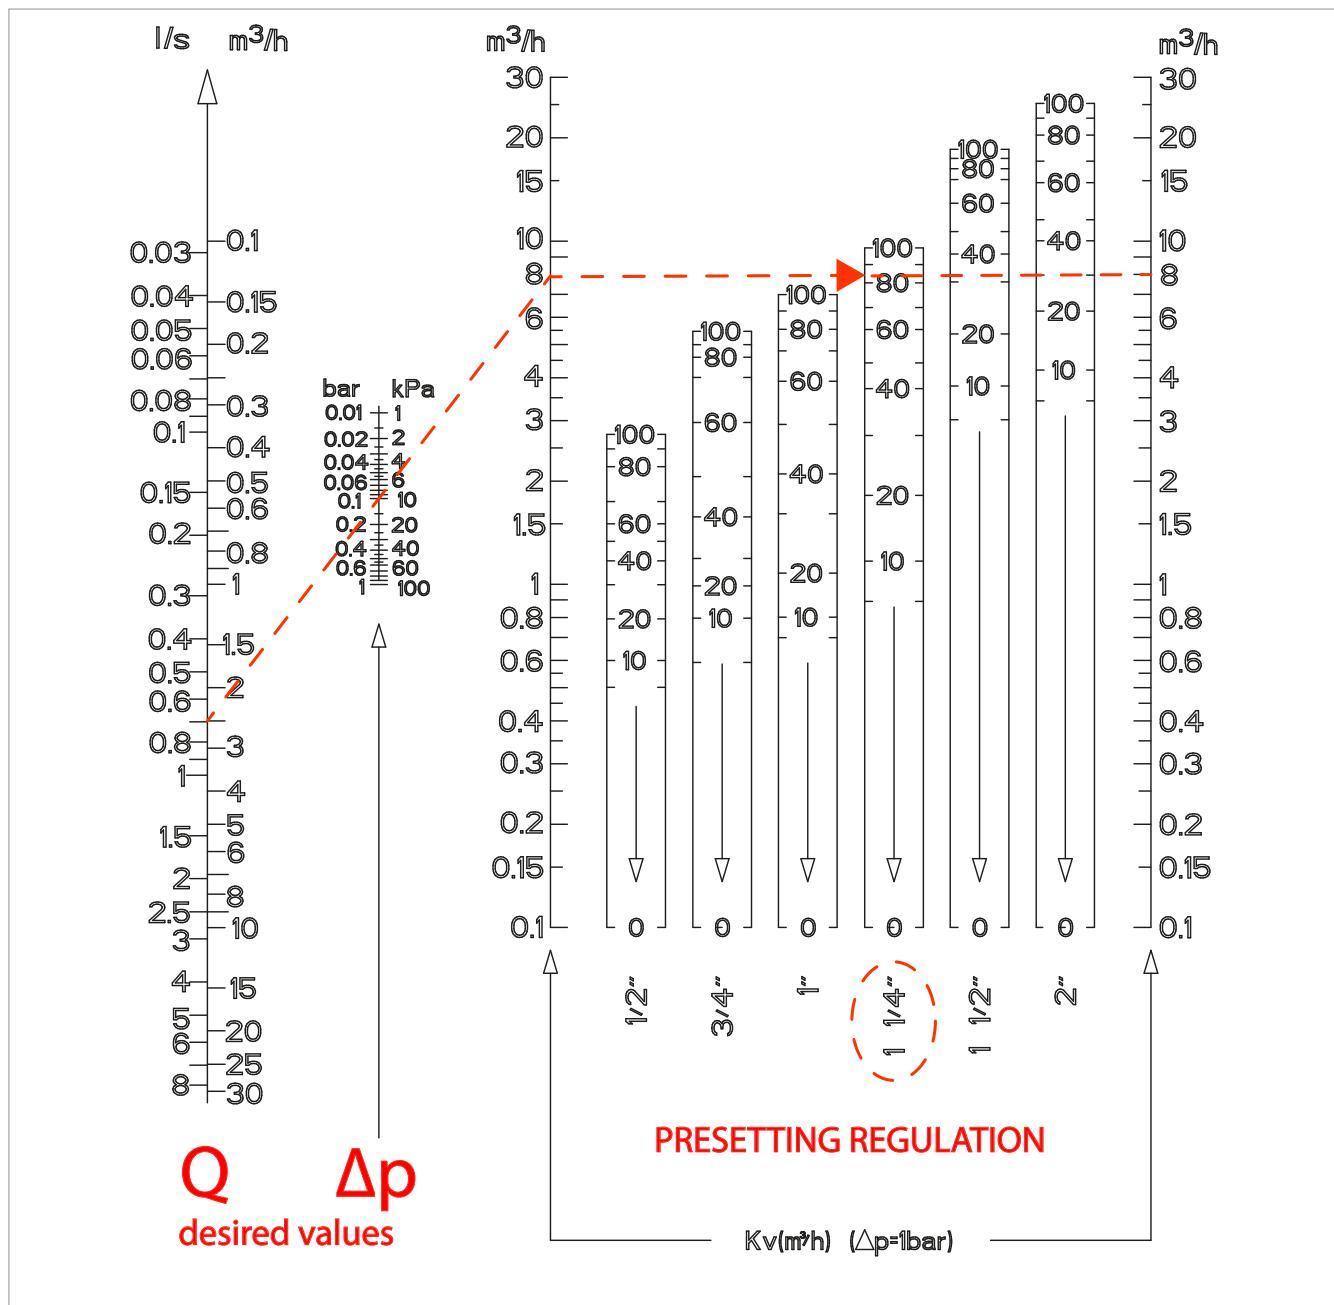

Figure 3
- Through the diagram of figure 3, determine the regulation to be carried out to obtain the desired flow rate  $Q$  depending on the differential pressure  $\Delta p$  according to the valve size.